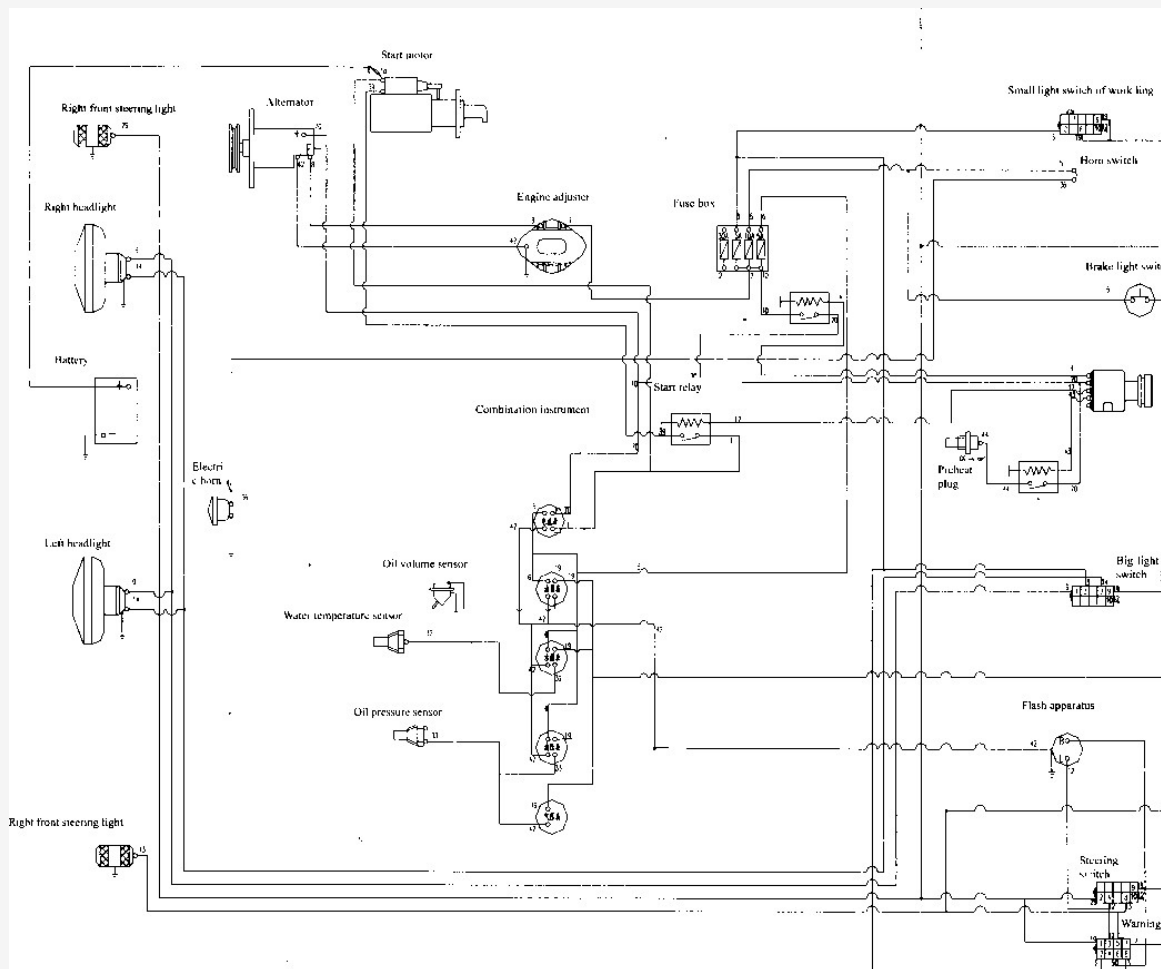

Fig.3-29
3.14.8 Echipamente electrice Fig 3-29